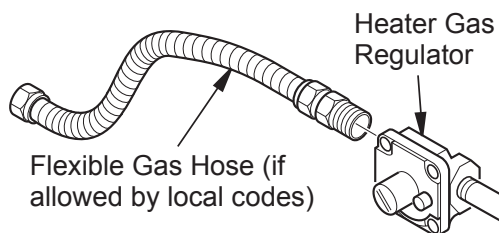

Figure 10 - Attaching Flexible Gas Hose to Heater Gas Regulator
1. Apply pipe joint sealant lightly to male threads of the 3/8 NPT side of gas fitting and connect to inlet side of gas control. Remove gas fitting from flexible gas hose (provided) before connecting to elbow (see Figure 10).